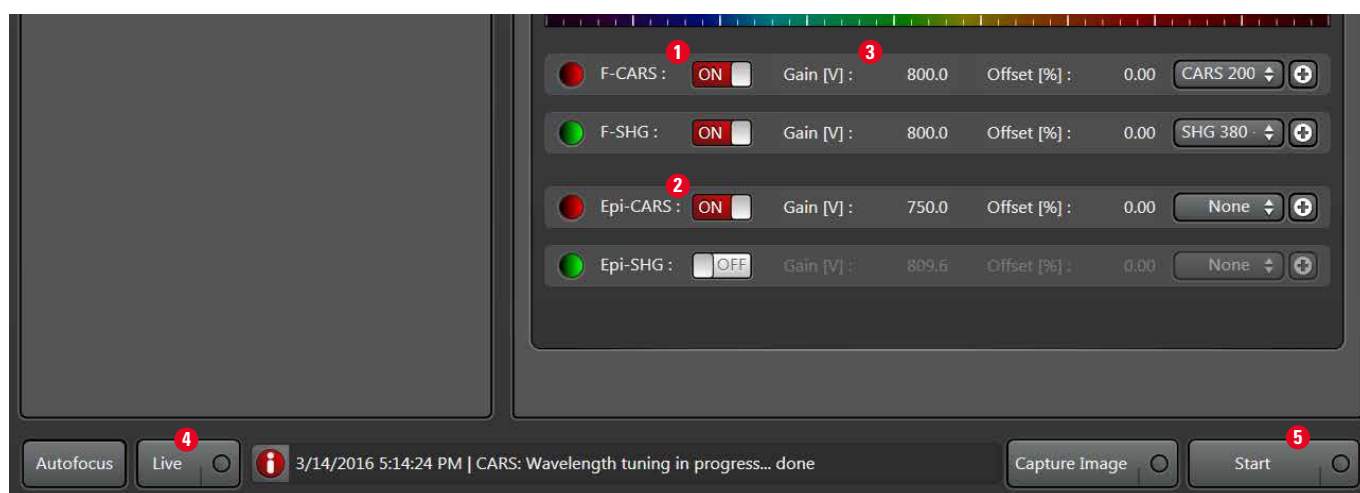

Figure 7: NDD control
Activate, as shown in **Figure 7, F-CARS ①** for forward signal or **Epi-CARS ②** for back-scattered signal. You can, of course, use both of them simultaneously, especially to check which detection mode is the best for your application.
Start the data acquisition by just clicking the **Start** button (**Figure 7** **5**). The scan will start at the shortest defined wavelength (or the largest Raman shift) and proceed to the longest wavelength. Note that the resulting spectral scan data is equi-spaced only in wavelength and not in wavenumber.